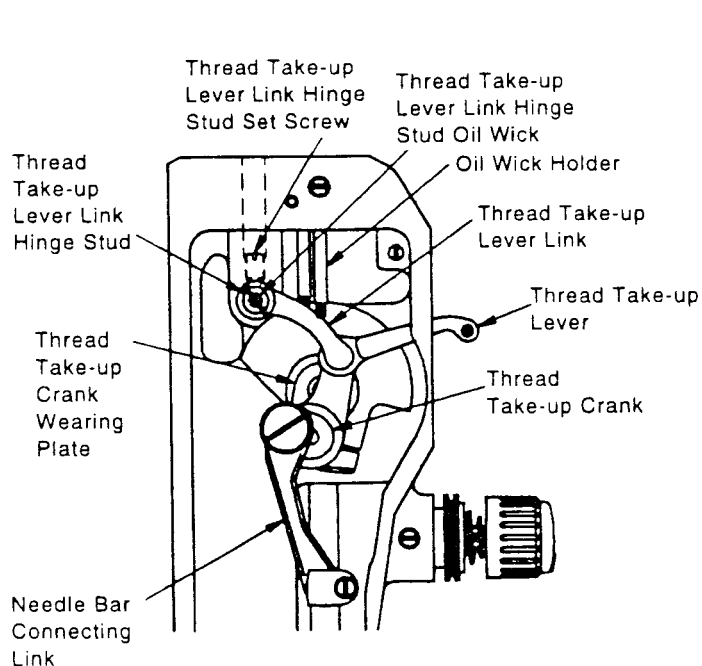

Fig.22
1. Make sure thread take-up crank wearing plate is in place and undamaged on the face of the needle bar crank, as shown in Fig. 22.